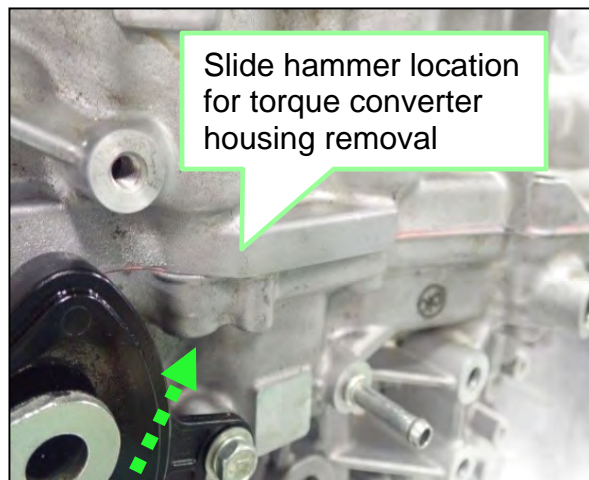
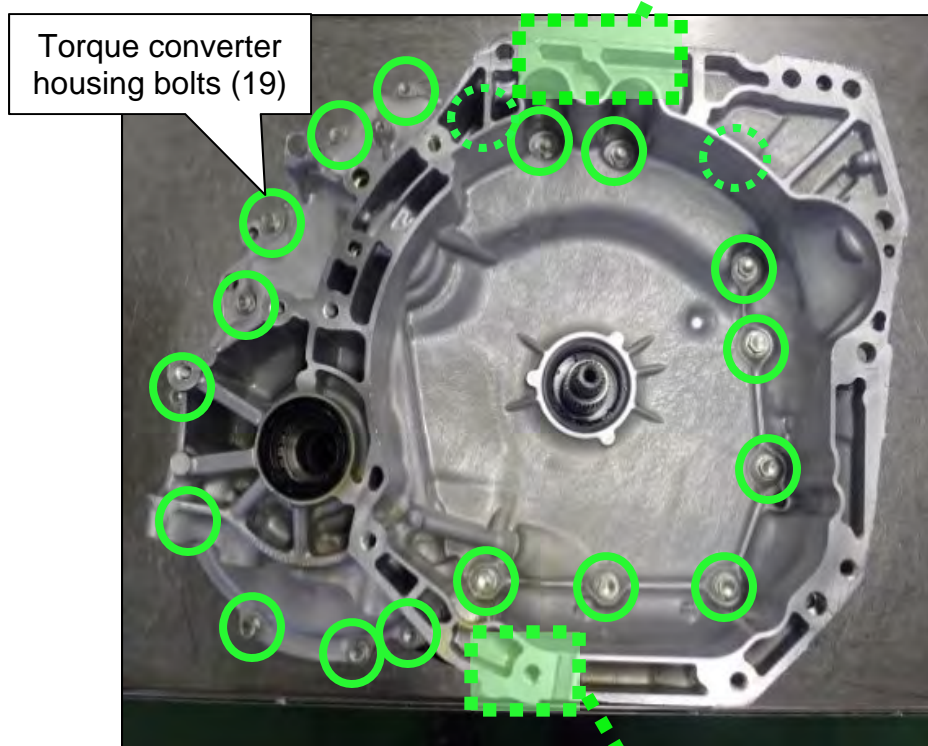
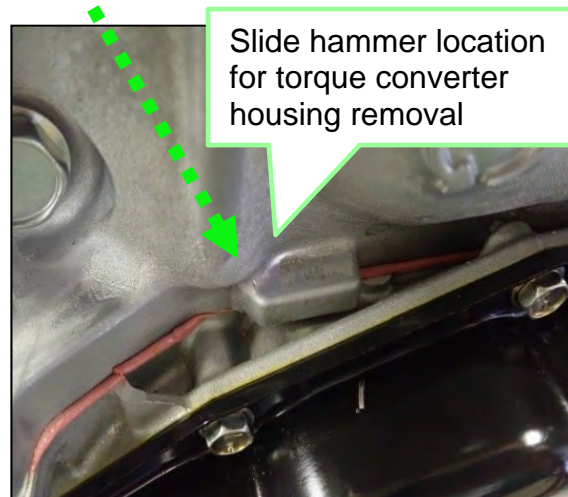

Figure 65
Figure 66
Figure 67
42. Remove the nineteen (19) bolts circled in green from the torque converter housing (Figure 66).
- The bolts that are not visible in Figure 66 are indicated with a dotted green circle.
- If necessary, use Slide Hammer J-25721-A at the locations highlighted in green (Figure 65, Figure 66, and Figure 67).